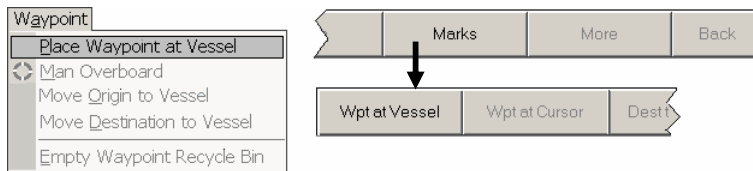

Figure 4-15. Placing A Waypoint At The Vessel's Current Position
1. As shown in Figure 4-15, select **Place Waypoint at Vessel** from the Waypoint menu, or, click **Marks/Wpt at Vessel** on the function bar.